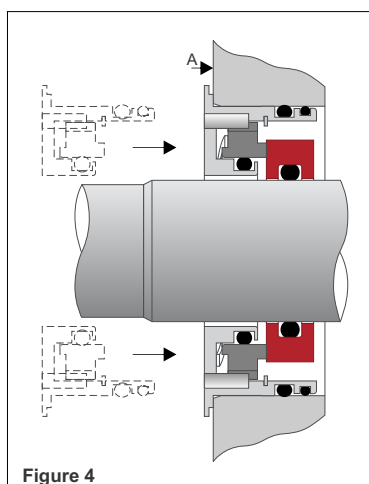

Figure 4
- With the stationary o-rings installed and the setting ring removed, the stationary assembly can be pushed into the bearing housing until the flange of the stationary housing makes contact with the bearing housing (Surface A - **Figure 4**). It is advisable to not use lubrication of any kind on the stationary housing o-rings or on the bearing housing.